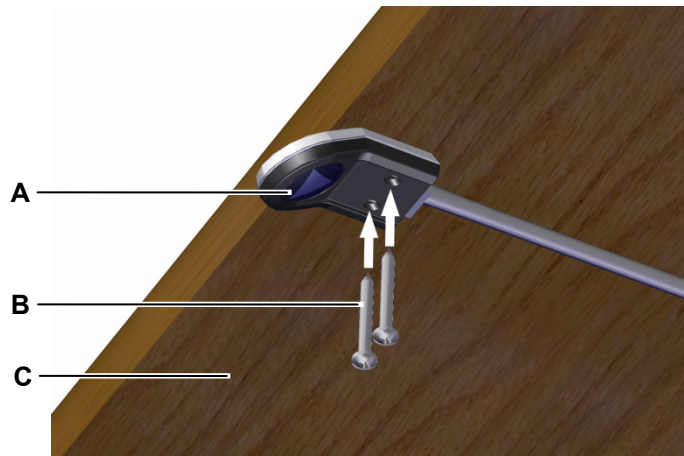

Figure 21 Example: Mounting the Motion Assist control keypad
Two screws are used to attach the Motion Assist control keypad to the underside of the table (at the table's front edge), as shown in Figure 21.
- Example: Use screws (B in Figure 21) which meet the requirements of DIN 7981 with \varnothing 3.9 mm and of suitable length (10 mm plus the screw-in depth into the table), screw head: \varnothing 7.5 mm.